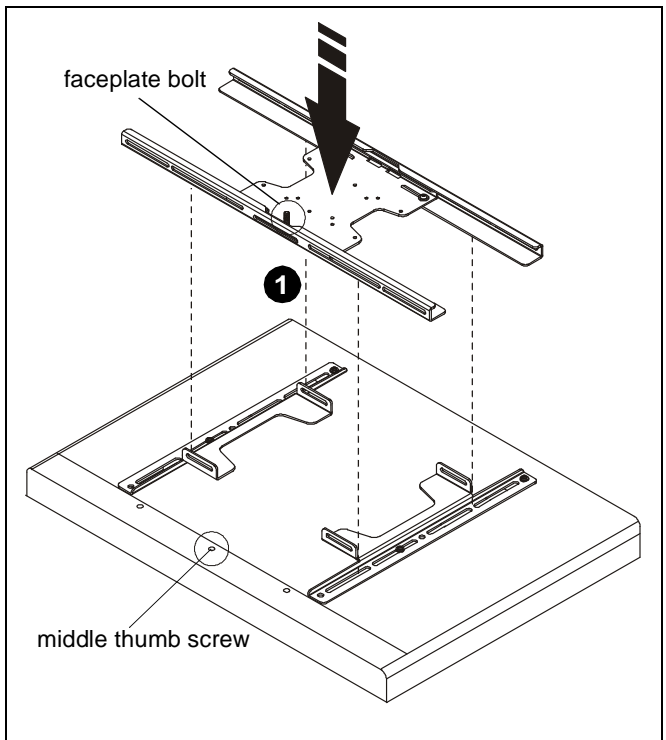
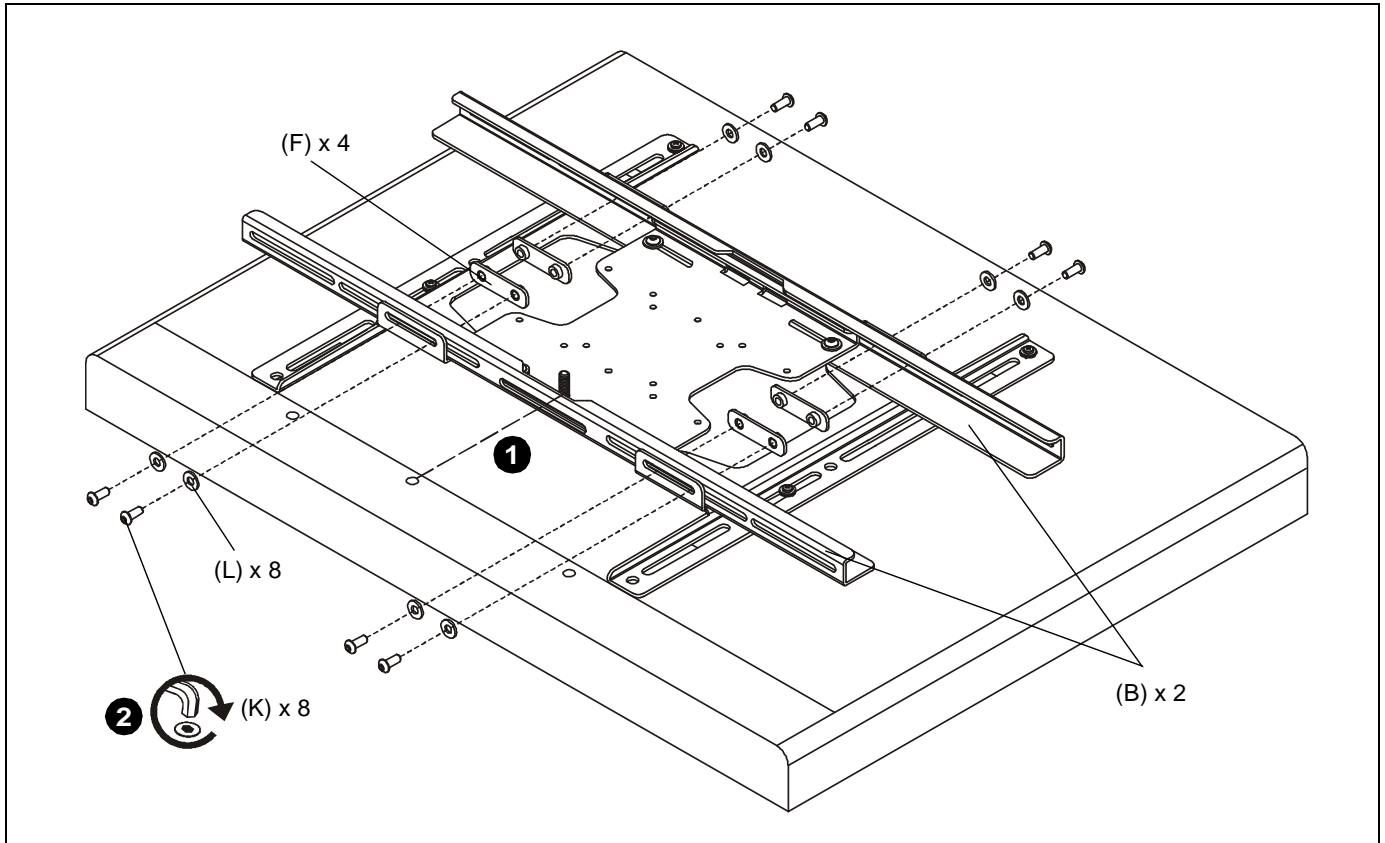

Figure 9
Figure 10
1. Align faceplate brackets (B) with interface brackets (C or D), aligning the middle thumb screw on bottom of display with the faceplate bolt. (See Figure 9) and (See Figure 10)
- Using hex key (H), install eight 1/4 x 5/8" screws (K) through eight 1/4" washers (L) and faceplate brackets (B) into four backing plates (F). Tighten securely. (See Figure 10)